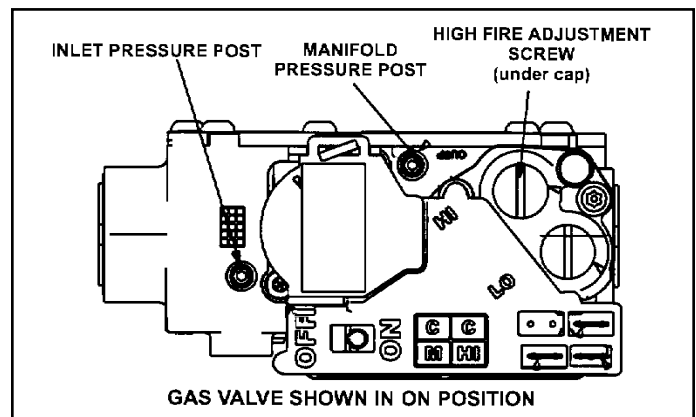

Figure 70.
6. Move gas valve switch to **OFF**. See Figure 70.
8. Move gas valve switch to **ON**. See Figure 70.
An inlet pressure post on the inlet side of the gas valve provides access to the supply pressure. See Figure 70. Back out the 3/32 Hex screw one turn, connect a piece of 5/16" tubing and connect to a manometer to measure supply pressure.
1. A manifold pressure post located on the gas valve provides access to the manifold pressure. See Figure 70. Back out the 3/32 Hex screw one turn, connect a piece of 5/16" tubing and connect to a manometer to measure supply pressure.